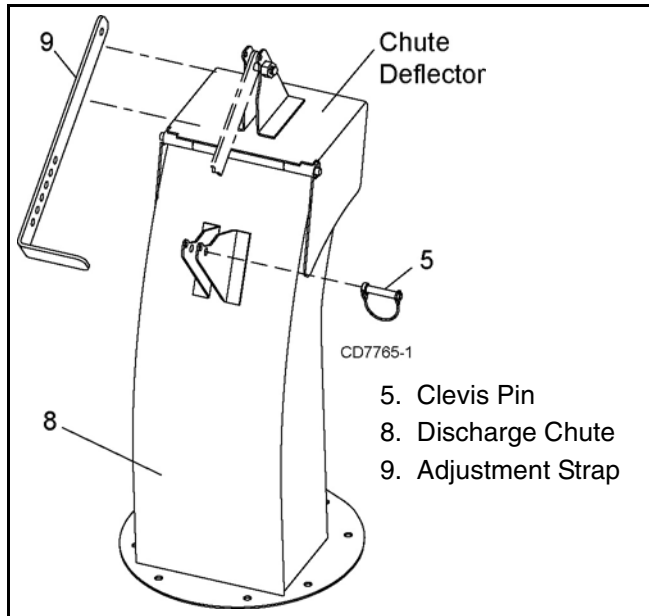

Figure 7. Discharge Chute Position
■ The height of snow discharge is controlled by position of chute deflector on discharge chute (8), Figure 7. Remove clevis pin (5), and slide adjustment strap (9) to selected discharge height. Reinstall clevis pin (5).